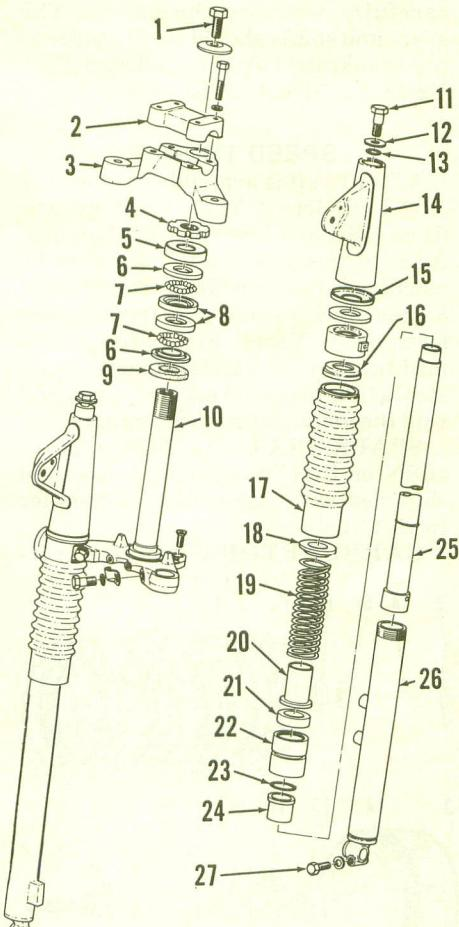

Fig. Y2-12-Exploded view of front fork assembly used on HS-1. Forks used on other models are similar.
**SUSPENSION.** The YL-1 front suspension unit contains 130cc of SAE 30 motor oil each. The units used on HS-1 and LS2 models contain 150cc of oil each. Oil in the front forks should be drained and filled with new oil every 4000 miles. Refer to Fig. Y2-12.